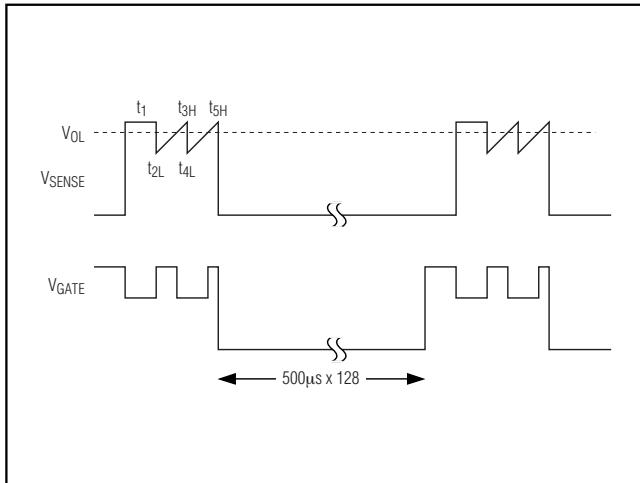

Figure 14. MAX5921A Overcurrent Fault Example
The MAX5921/MAX5939 feature an overcurrent fault integrator. When an overcurrent condition is detected, an internal digital counter is incremented. The clock period for the digital counter is 32µs for the 500µs maximum current-limit duration version and 128µs for 2ms maximum current-limit duration devices. An overcurrent of less than 32µs is interpreted as an overcurrent of 32µs. When the counter reaches 500µs (the maximum current-limit duration) for the MAX5921/MAX5939A, an overcurrent fault is generated. If the overcurrent fault does not last 500µs, then the counter begins decrementing at a rate 128 (maximum current-limit duty cycle) times slower than the counter was incrementing. Repeated overcurrent conditions generate a fault if the duty cycle of the overcurrent condition duty ratio is greater than the maximum current-limit duty cycle (see Figure 14).
- If an optocoupler is utilized as in Figure 14, determine the LED series resistor: